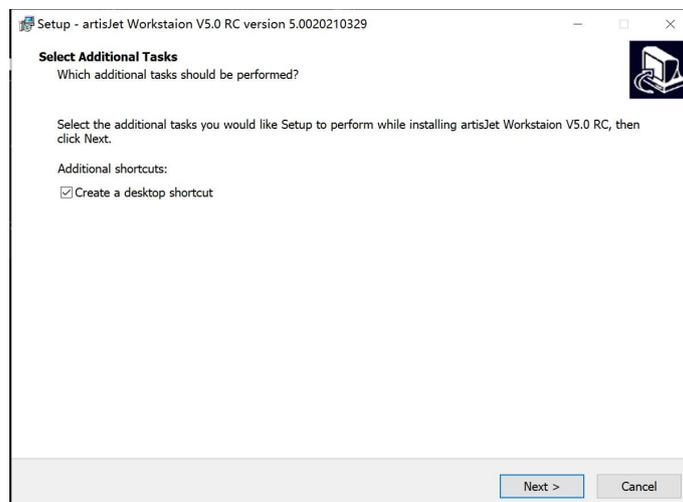
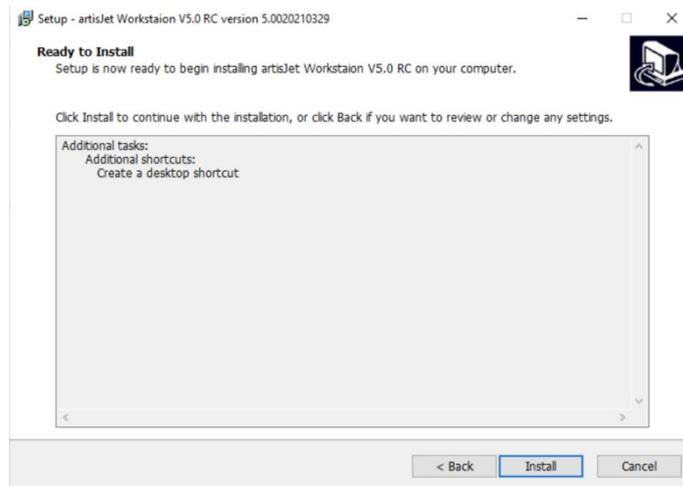

Fig. 3 – Installation wizard window
Fig.4 – Initialize installation process
**Step 2** - The installation wizard will pop up (Fig. 3). Click “Next” to continue the installation steps (Fig. 4). *Select the check box of “Create a desktop shortcut” is recommended.*
**Step 3** - Click the “Install” button to initialize the installation process (Fig. 4).